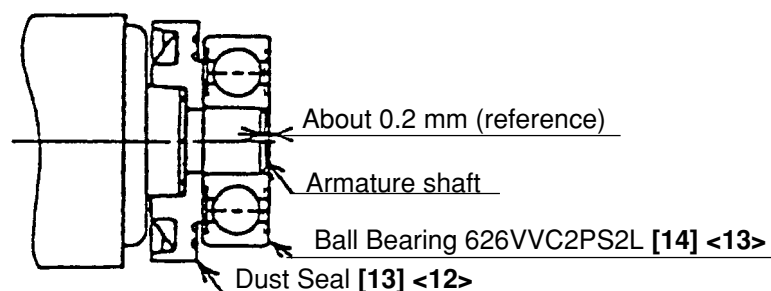

Fig. 3
- (1) Ensure that the terminals of the stator are not bent or otherwise damaged.
- (2) Generously lubricate the teeth of Gear [19] <18> and Pinion [6] <5> with grease. Rub grease onto the teeth with your fingers so that the grease reaches each tooth bottom. Note that the Gear [19] <18> and the Pinion [6] <5> may wear faster than normal if under-lubricated.
- (3) Be sure to soak the inner diameter of the Felt Packing [23] <22> with machine oil. Otherwise, its dust-sealing function will fail to work properly, resulting in earlier damage of the Ball Bearing 6201VVCMP2S2L [22] <21>.
- (4) When replacing the Armature [9] <8> and the Ball Bearing 626VVC2PS2L [14] <13> on the commutator side, press inward on the Dust Seal [13] <12> while taking care of its direction until the end face of the Dust Seal [13] <12> contacts against the end surface of the Armature [9] <8> and make sure that Dust Seal [13] <12> cannot be turned freely by hand. Keep the end face of the armature shaft approximately 0.2 mm (reference) distance inward of the end face of the Ball Bearing 626VVC2PS2L [14] <13>. (See Fig. 3.)